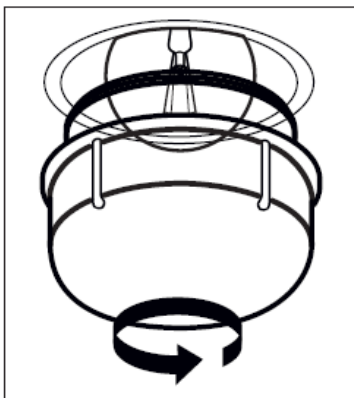

Figure 29
2. Remove the glass protection by turning it counterclockwise (See figure 29). Using plastic gloves may help you if you have difficulty rotating it.